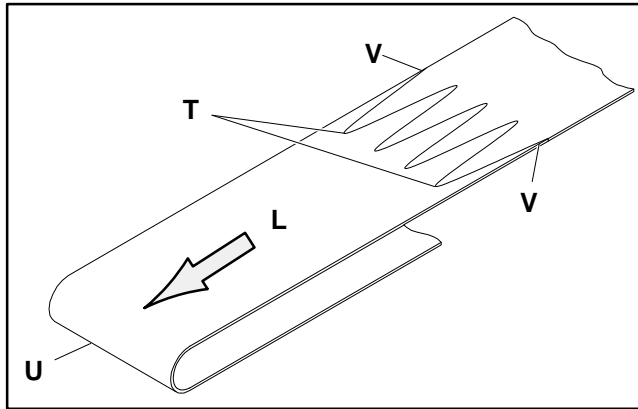

Figure 21
1. Orient replacement belt so belt splice leading fingers (T of Figure 21) point in direction of belt travel (L), towards bottom wiper end (U) of conveyor, and that outside fingers (V) are positioned as shown.